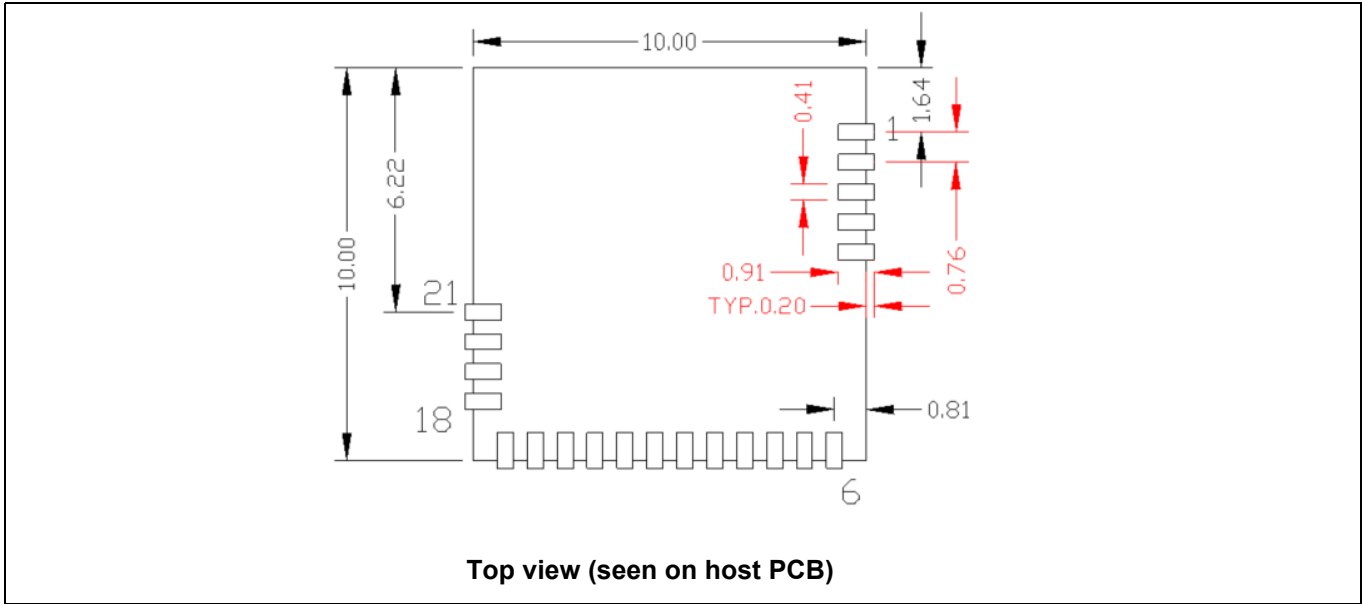
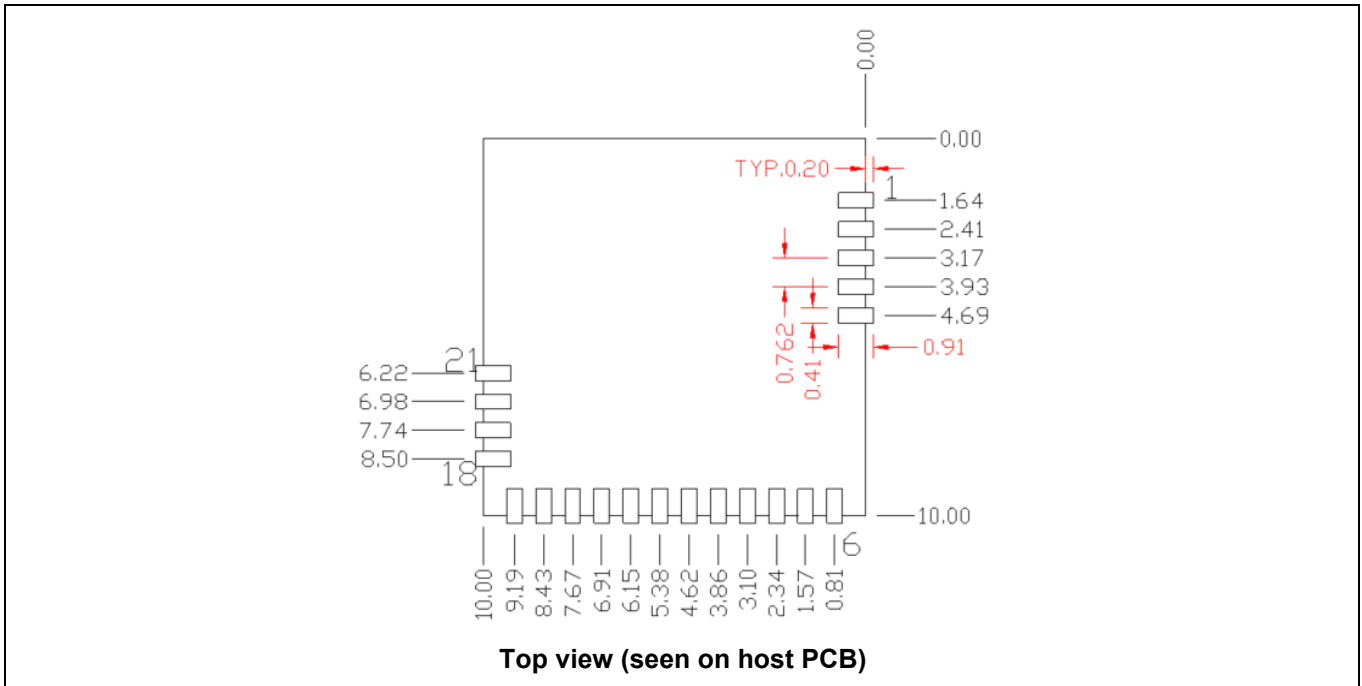
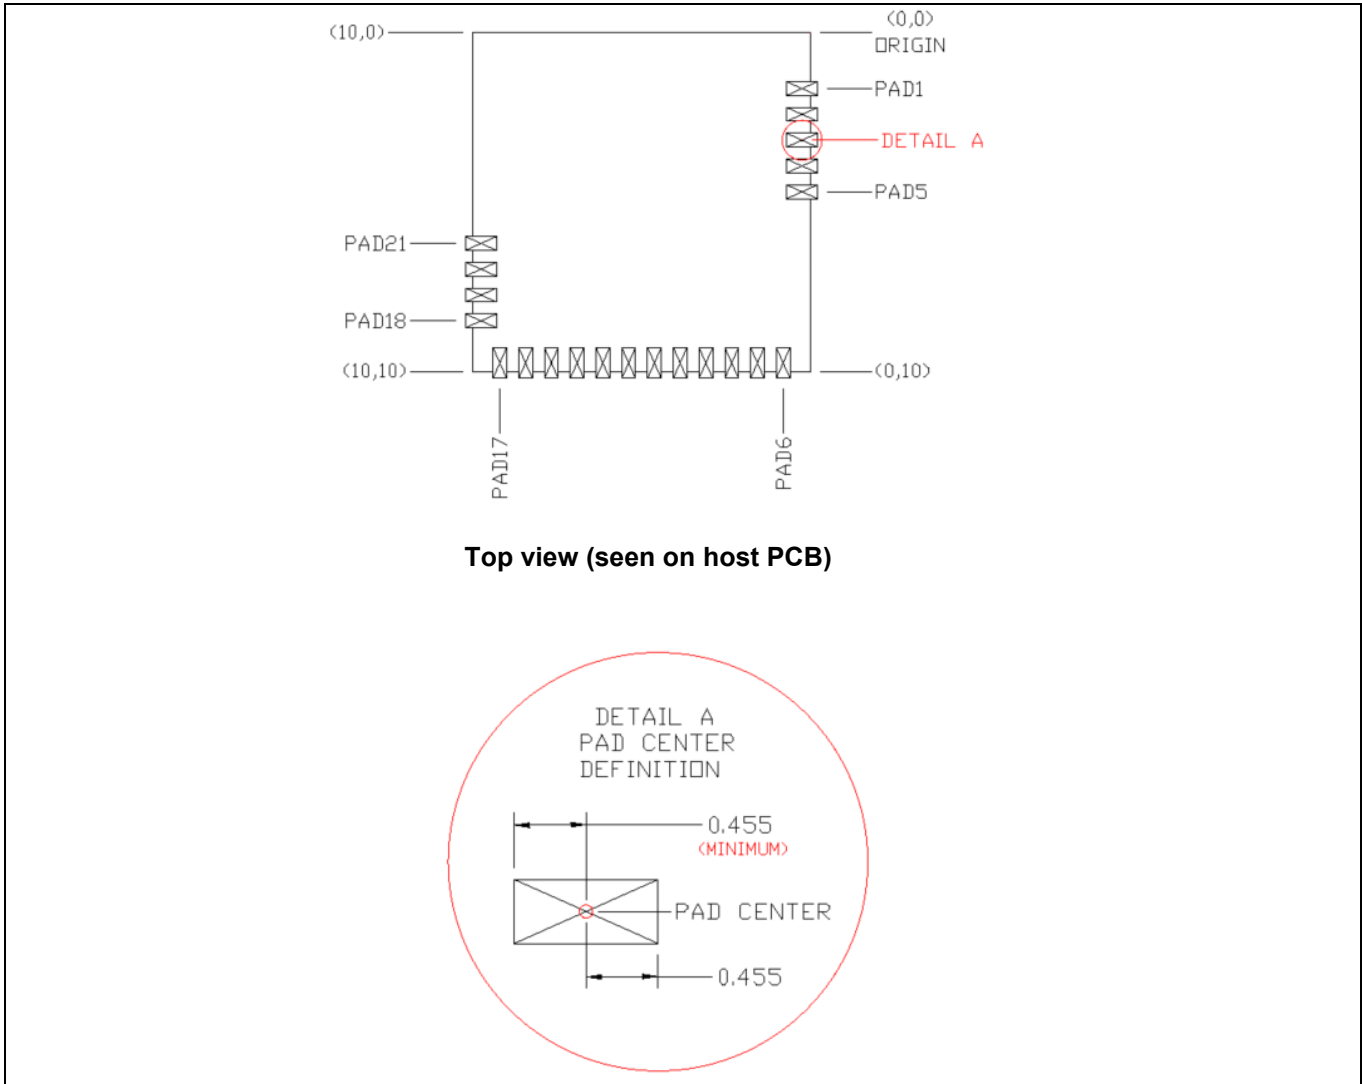

Figure 4 Host layout pattern for CYBLE-022001-00
Figure 5 Module pad location from origin
Figure 6 Solder pad reference location
3. The ideal placement of the Infineon Bluetooth® LE module is in a corner of the host board with the chip antenna located at the far corner. This placement minimizes the additional recommended keep out area stated in item 2. Refer to AN96841 for module placement best practices.
4. To maximize RF performance, the area immediately around the Infineon Bluetooth® LE module chip antenna should contain an additional keep out area, where no grounding or signal traces are contained. The keep out area applies to all layers of the host board. The recommended dimensions of the host PCB keep out area are shown in Figure 4 (dimensions are in mm).
Figure 4, Figure 5, Figure 6, and Table 3 provide details that can be used for the recommended host PCB layout pattern for the CYBLE-022001-00. Dimensions are in millimeters unless otherwise noted. Pad length of 0.91 mm (0.455 mm from center of the pad on either side) shown in Figure 6 is the minimum recommended host pad length. The host PCB layout pattern can be completed using either Figure 4, Figure 5, or Figure 6. It is not necessary to use all figures to complete the host PCB layout pattern.
Table 3 provides the center location for each solder pad on the CYBLE-022001-00. All dimensions are referenced to the center of the solder pad. Refer to **Figure 6** for the location of each module solder pad.